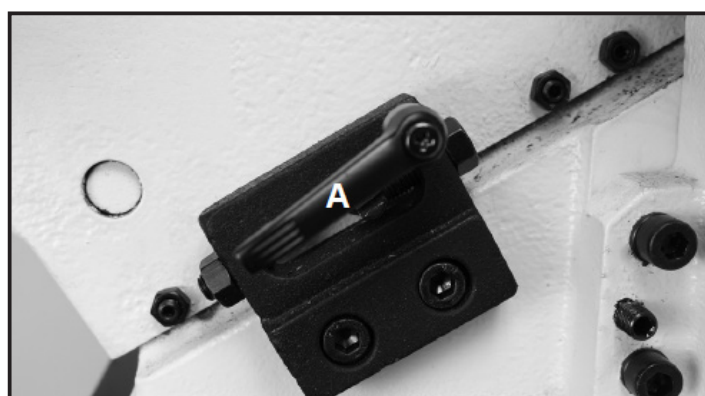

FIG.7.2.5
- Loosen the locking lever (A-FIG. 7.2.5) at the rear of the infeed table.